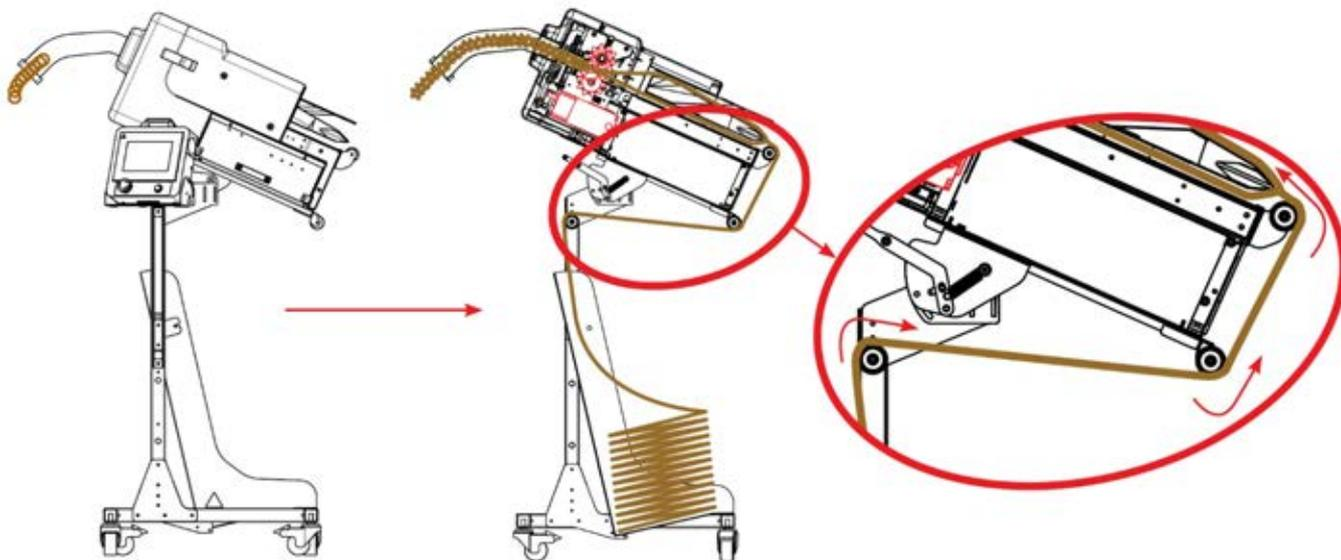

Figure 16 Clear Last Paper Pad and Reload
6. Place the **X-Fold Paper Bundle** in the **Bundle Holder** (refer to Figure 16).
1. Place the paper supply in the paper bracket according to the arrow on the bracket (refer to Figure 16).